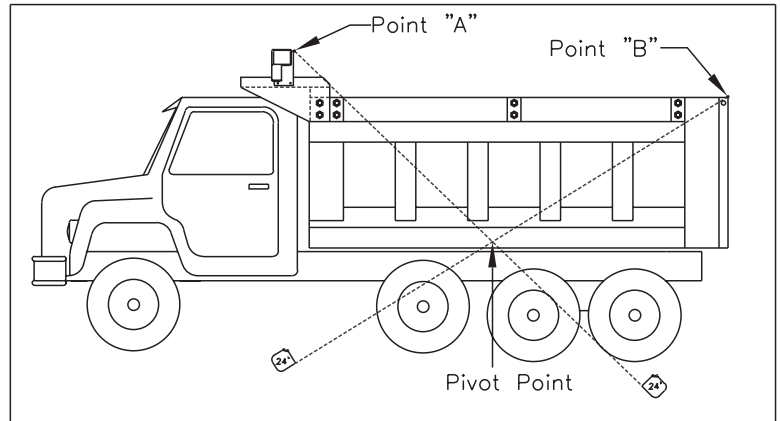

FIGURE 1
- 3) Drill a 3/8" hole, 1/2" from each end of the rollerbar you just cut. Start the hole in one of the smooth-sided slots (see Figure 1). Slide one end of the rollerbar over the DD motor output shaft and secure with a 5/16" carriage bolt, washer, and nut.
- 1) To find the pivot point, pull one tape measure from point "A" and a separate tape measure from point "B". Next, cross the tape measures at the bottom-middle of the truck body where the two measurements are equal - mark the spot beneath where they cross. This is your pivot point. (See Figure 1)
- 2) Slide one of the upper pivot arms into a lower arm. Adjust the arm length until the corner rests on the desired landing point at the back of the box (Point "B", figure 1 from 'Pivot Installation Instructions' on previous page). If the upper arm is too long, cut both upper arms to allow at least 2 feet of upper pivot arm sticking into the lower pivot arm.